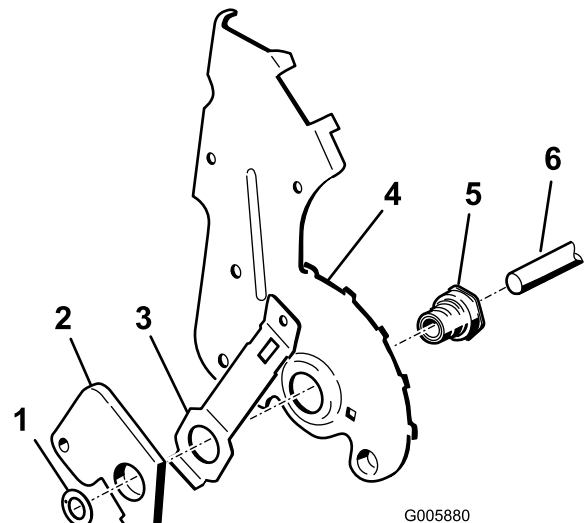

Figure 1
6. Install the new bearing retainer assemblies through the height-of-cut plate assemblies (Figure 1).
7. Insert the new spring arm over the thread portion of the bearing retainer (Figure 1) .
8. Put the spring arm in position (Figure 1).
9. Thread the bearing retainer assembly into the pivot arm (Figure 1).
14. Replace the non-keyed steel thrust washer with the non-keyed plastic thrust washer on the left hand side only (Figure 1).